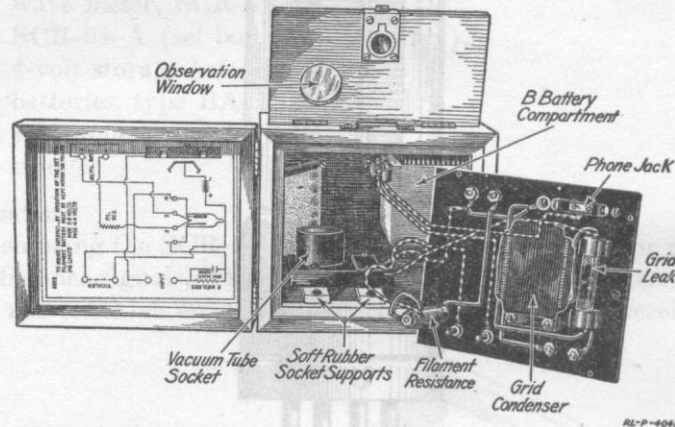
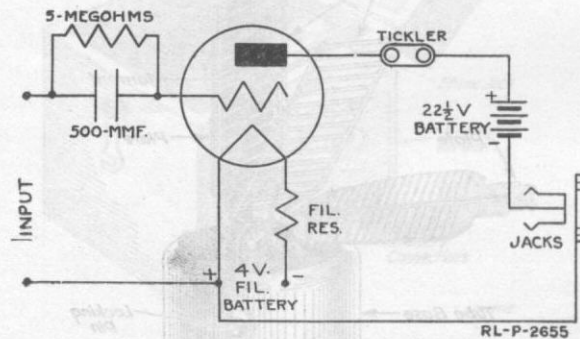

Fig. 56.—Panel of DT-3-A detector removed to show interior parts.
Fig. 57.—Schematic diagram of connections in the DT-3-A detector.
1. Remove the four screws from the corners of the panel of the DT-3-A detector. Lift out the panel, being careful not to break the flexible wires attached to it. (See Fig. 56.) Trace the wiring and compare it with the diagram in the lid of the box and also with the schematic diagram in Fig. 57.